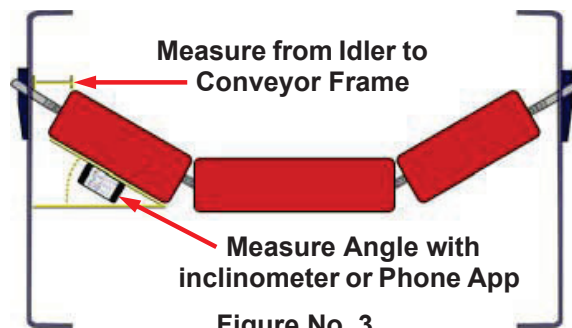

Figure No. 3
2. RECORD WING IDLER ANGLE AND IDLER POSITION (see Figure No. 3)